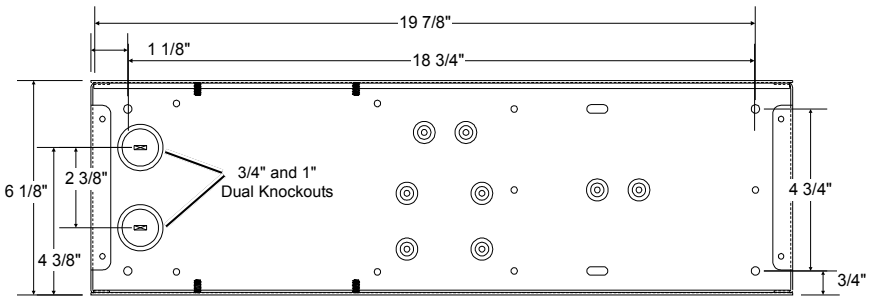

Figure 2-2
- Measure out the four mounting screw holes according to Figure 2-2.